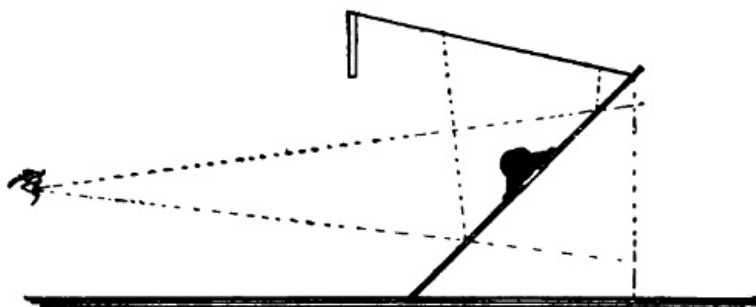

FIGURE 117.
*Head Suspended in Air.*—This act is worked out in bright light. It requires a mirror with a hole in the center of it large enough to admit the head of a person, as shown in Figure 117. Above the mirror suitable decorations are provided which cause one looking at the mirror to imagine seeing the back wall of a room. The ceiling must of course be kept out of view as much as possible. A person looking on sees the head and the mirror gives him the impression of vacant space about it. The head must be surrounded by a collar or drapery of some kind so that no reflection of it will be visible.